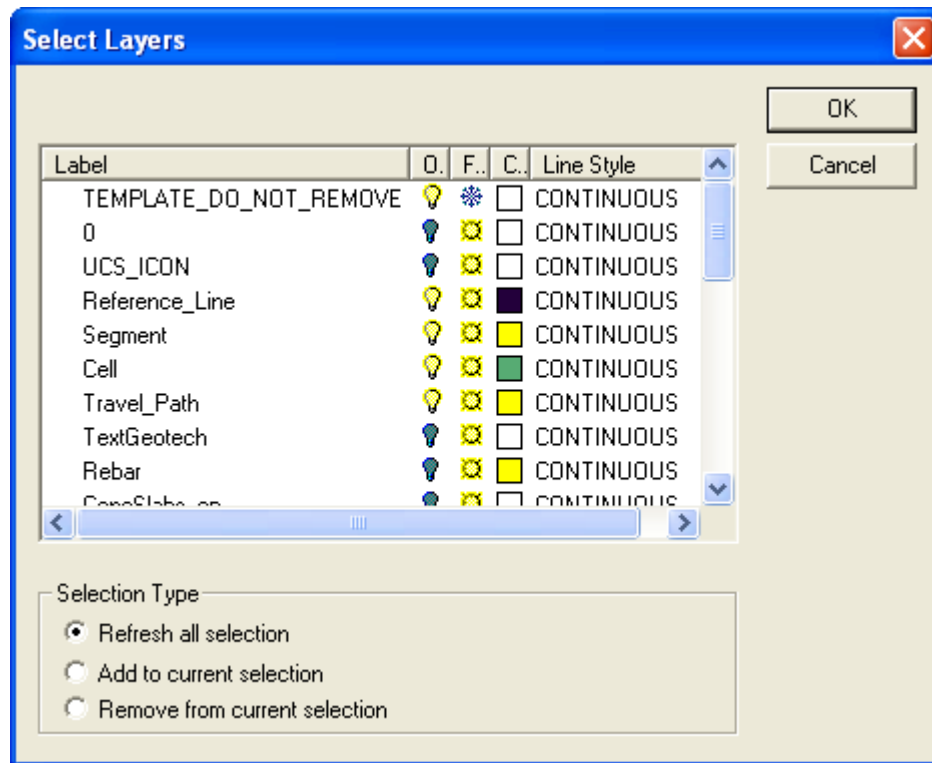

FIGURE 2.3-2 SELECT LAYERS DIALOG WINDOW
- Click on the Select by Layer  tool. The dialog box shown in **Fig. 2.3-2** will open.